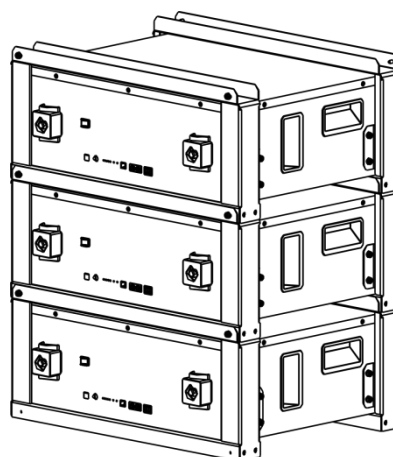

Figure3-6
5. Stack the required number of battery and bracket combinations as described above, and fix the screws, twisting force keeps 9.8N·m. Shown as Figure3-6.